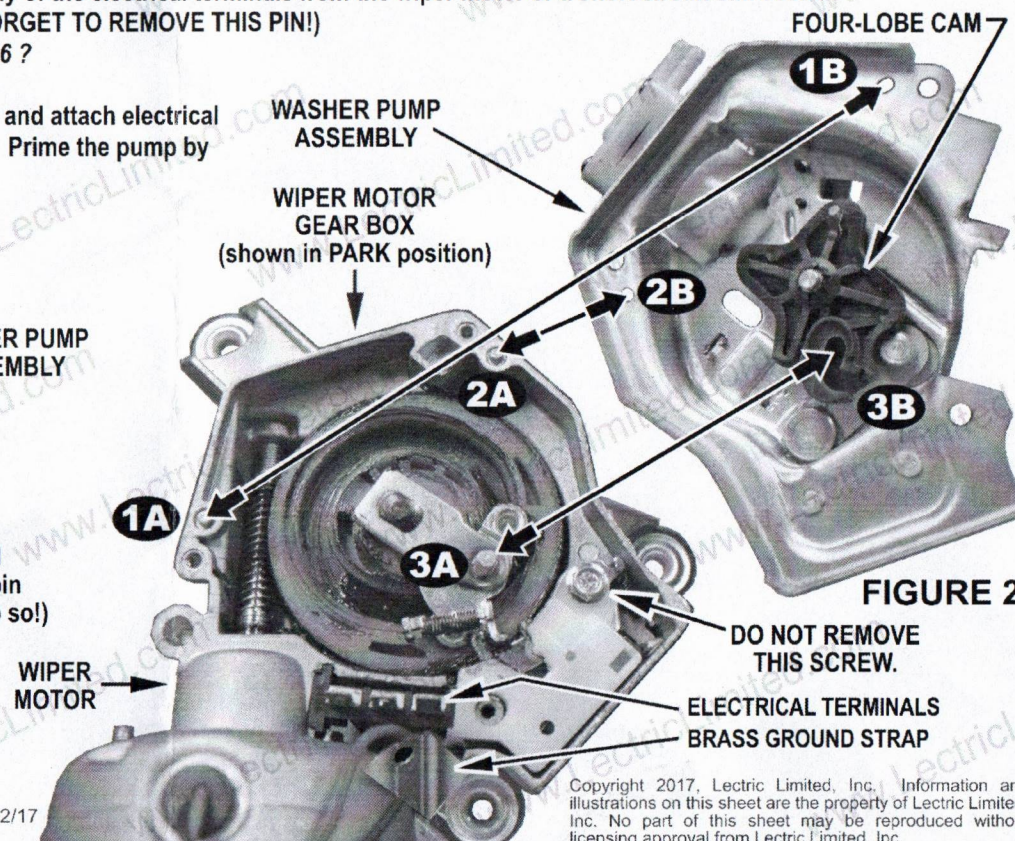

FIGURE 2
2. Remove (3) screws from wiper motor gear box. Do not remove the screw shown in (Figure 2)
3. Before you can affix washer pump to wiper motor gear box, the gear box must be in the PARK position. Note the PARK position of drive pin 3A (Figure 2)
4. Simultaneously align the following in (Figure 2):